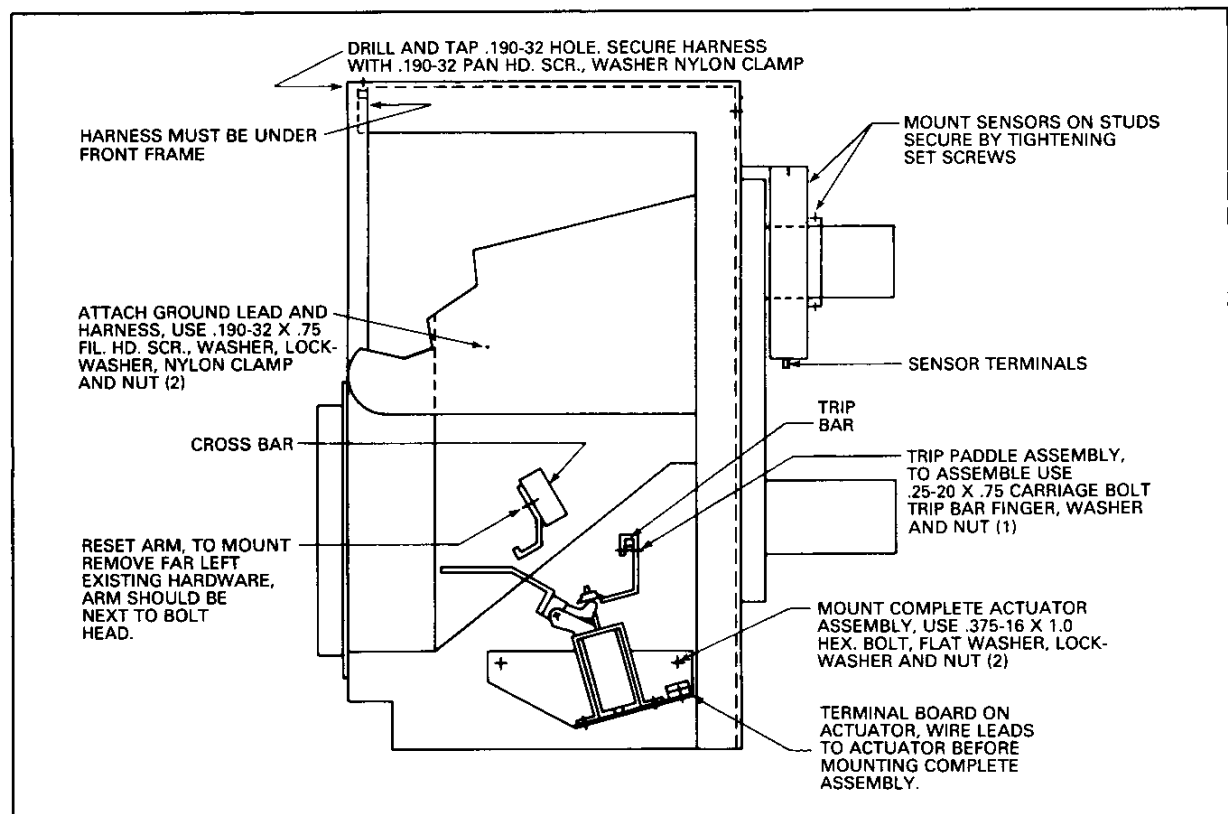

Fig. 5. Left Inside View of Breaker Looking Through From Right Side.
5. Viewing the breaker from the front, remove the .375-16 x 1.5 hex bolt located on the far left side of the cross bar. Place the reset arm between the bolt head and the lockwasher (Figs. 5 and 6), tighten the bolt being positive that the locking clip is in its previous position.
5. Remove the finger clusters from the top studs, place the sensors on the studs and secure them by tightening the set screws. See Figs. 5 and 7.
7. Bring the amptector end of the harness up towards the front of the breaker. Estimate the amount of harness required for attaching to the retaining bar (steps 8 and 9) and the ground connection, Fig. 5.
9. Directly downward about five inches from the retainer bar and to the right you will locate a .190 hole on the side frame, Fig. 5. Attach both the green colored lead and the harness at this point using .190-32 x .75 fil. hd. scr. nylon clamp washer and nut. This now grounds the sensor star point.
13. Drill and tap a .190-32 hole at the top of the right hand side front frame. See Fig. 5 using a nylon clamp around harness secure with .190-32 pan hd. scr., washer, lock-washer.
2. Attach the two actuator leads to the terminal board on the actuator, the leads should be to the left of the actuator housing, Fig. 5.